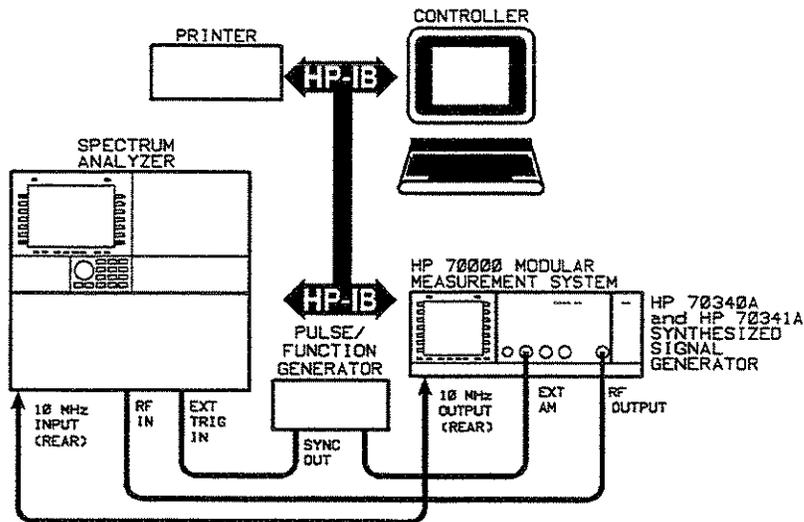

Figure 3-7. AM Linearity Calibration Equipment Setup
1. Set up the equipment as shown in Figure 3-7.